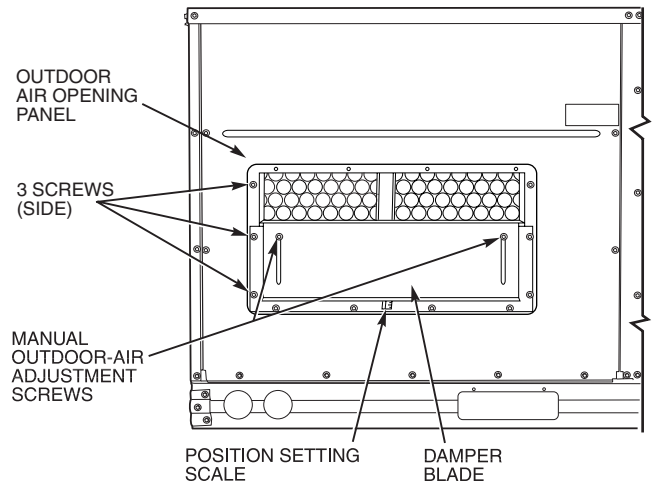
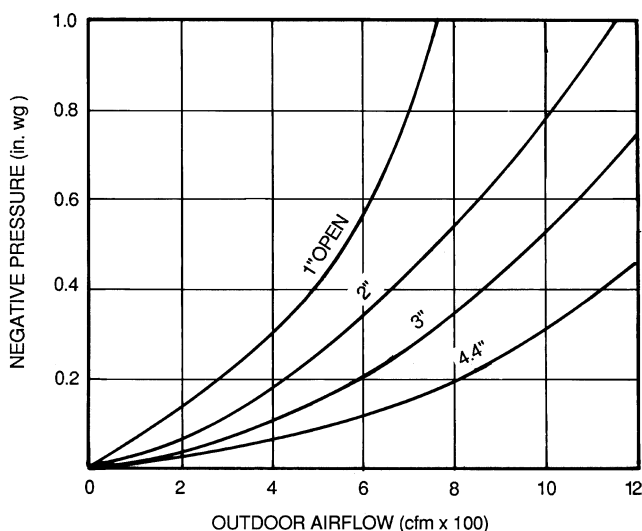

Fig. 16 — Damper Panel with Outdoor-Air Damper Installed
Fig. 19 — Position Setting
2. Remove filter access panel. Remove and save outdoor-air opening panel and screws. See Fig. 16.
8. For proper quantity of ventilation air, adjust minimum position setting of the damper blade by adjusting the manual outdoor-air adjustment screws on the front of the damper blade. See Fig. 16. Slide blade vertically until it is in the appropriate position determined by Fig. 19. Tighten screws.